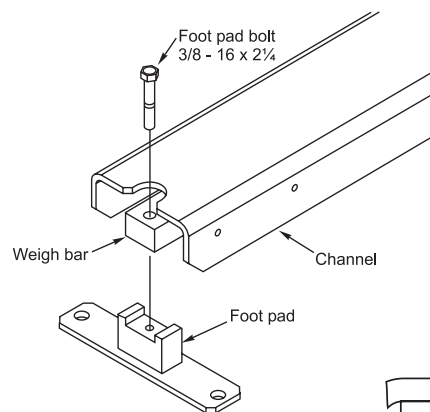
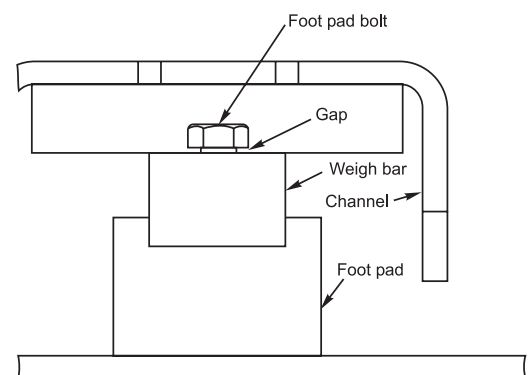

Figure 1
Figure 2
1. Attach the feet to the bar as shown in Figure 1. When properly tightened, the footpad bolt will not be tight against the weigh bar, there will be a gap of approximately 1/16" (see Figure 2). This allows the bar to bend properly during use – do not shorten bolt or use washers to fill the gap. Performance may be adversely affected.